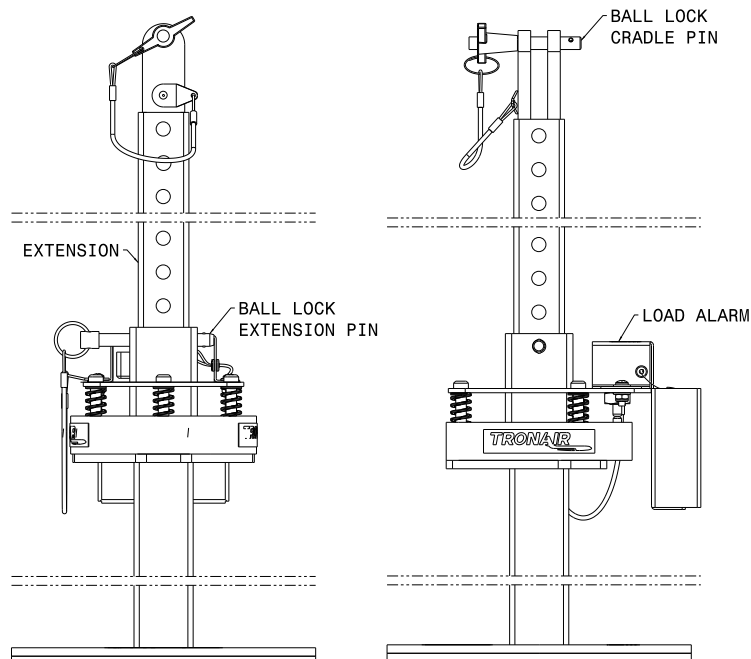

FIGURE 5
#### To Raise Aircraft: **Reference Figure 5**
7.4 OPERATING INSTRUCTIONS *(continued)***To Lower Aircraft: Reference Figure 5**